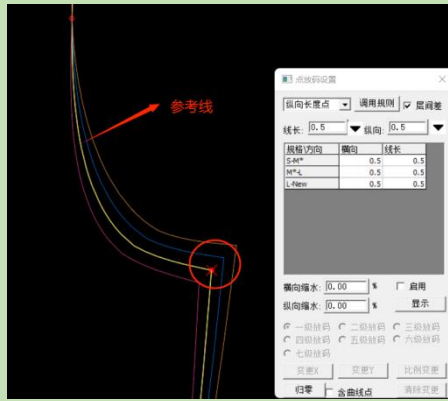

Figure5-59
2. Enter the longitudinal grading amount and the line length as shown in Figure 5-59.